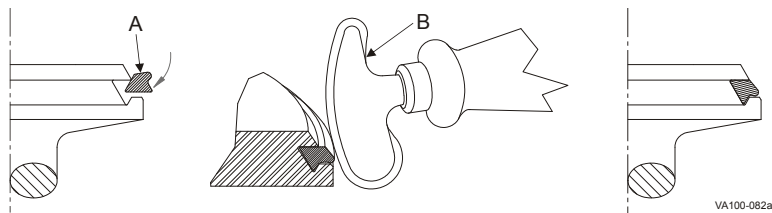

Figure 10 - Installing New Tri Ring Seat
3. Lubricate the new Tri Ring (Figure 10, item A) with an acceptable cleansing solution or lubricant.
5. Using the installation tool, press the Tri Ring into the plug at locations A, B, C, and D. If the tool is not used, DO NOT use a knife or any other sharp item that will tear or cut the Tri Ring. To finish installation, press small sections of the seal, alternating from side to side (A-B-C-D), avoiding large loops of seal. When properly installed, the Tri Ring seat lip will protrude slightly from the seat edge as shown in Figure 10.